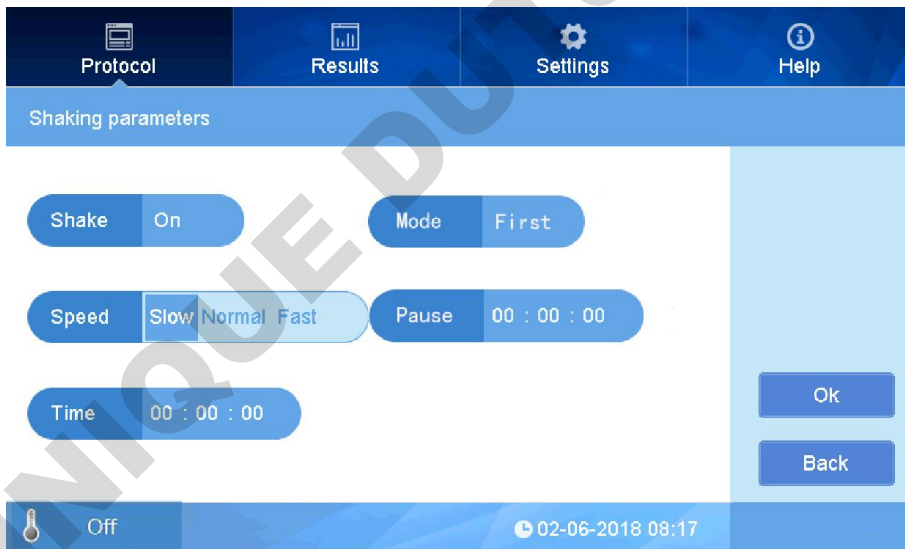

fig 24
- Click button right beside “Speed” to set speed, Slow, Normal, Fast(Fig 24).